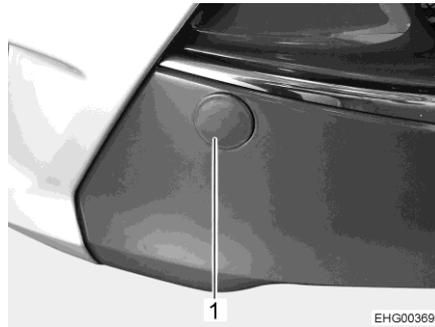

Fig. 42 Cover for the towing eye holder
- Remove the cover (Fig. 42,1).